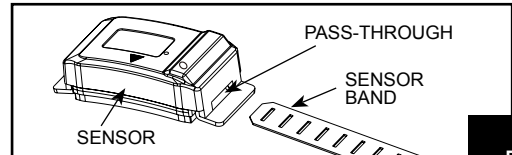

Figure 3: Feed band through sensor
5. Pass the end of the band through the sensor and slide sensor to within a few inches of the band clamp screw. See Figure 3.